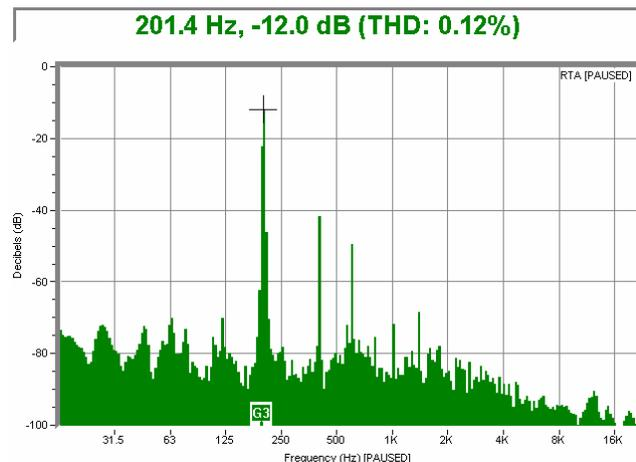

Figure 5: Sample THD measurement of a small loudspeaker at 200Hz: THD=0.12%.
For this measurement, you will need to use SmartLive’s internal generator to output a single-frequency tone into the device-under-test at a reference frequency, and a low-distortion audio interface. The measured THD will represent the total distortion of the entire measurement system, so it is imperative that the measurement system have significantly lower distortion than the device under test. Figure 5 shows an example configuration, where a THD measurement of a loudspeaker is being performed. By placing the RTA in 1/24th-octave resolution mode and activating the menu item under **View? Cursor? Show THD**, SmartLive will calculate the total harmonic distortion from the amplitude of the fundamental and subsequent harmonics *at the current cursor*
*position*. Set the generator to *Sine Wave* to output a single frequency of choice, and place the cursor at that frequency. It may be necessary to increase the FFT size to maximize the low-frequency resolution of the measurement. Figure 5 shows a sample measurement of a small loudspeaker at 200Hz. For the measurement of a loudspeaker, the room should be very quiet, and a low-distortion microphone should be employed. Note that you may also use the *Show Harmonics* feature of *SmaartLive* by pressing **Ctrl+H**, which will activate a grid marking the harmonics relative to the *locked cursor* position. See the *SmaartLive User Guide* for more information.